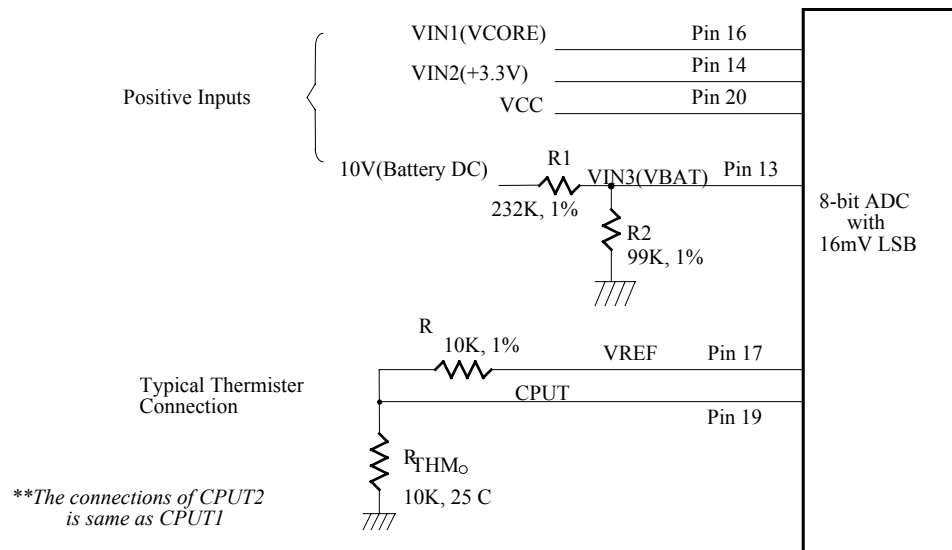

Figure. 10.
The maximum input voltage of the analog pin is 4.096V because the 8-bit ADC has a 16mv LSB. Really, the application of the PC monitoring would most often be connected to power suppliers. The CPU V-core voltage and +3.3V voltage can directly connected to these analog inputs. The 5VSB and battery inputs should be reduced a factor with external resistors so as to obtain the input range. As Figure 10 shows.
The W83L784R can connect three thermistors to measure three different environment temperature. The specification of thermistor should be considered to (1) β value is 3435K, (2) resistor value is 10K ohms at 25°C. In the Figure 10, the thermistor is connected by a series resistor with 10K Ohms, then connect to VREF (pin 17).